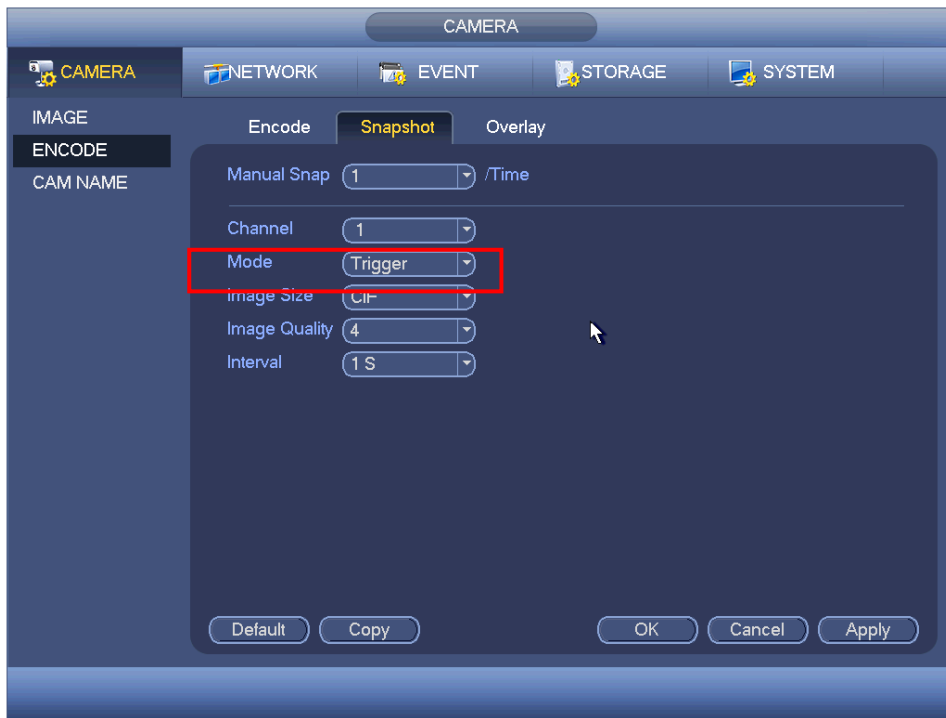

Figure 4-99
- In main menu, from Setting->Camera->Encode->Snapshot interface, here you can input snapshot mode as trigger, size, quality and frequency. See Figure 4-99.